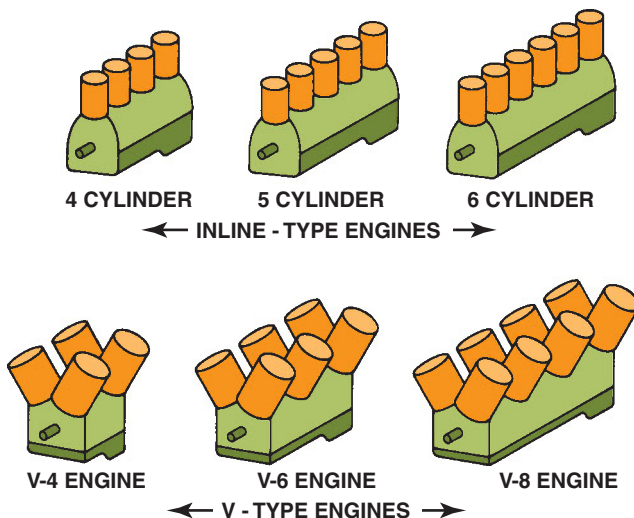
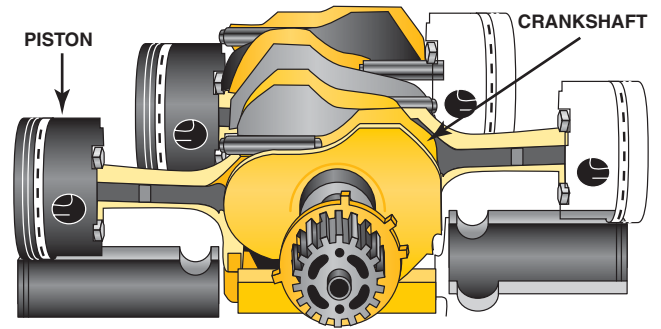

FIGURE 3-7 Automotive engine cylinder arrangements.
FIGURE 3-8 A horizontally opposed engine design helps to lower the vehicle's center of gravity.
- **Cylinder arrangement.** An engine with more cylinders is smoother operating because the power pulses produced by the power strokes are more closely spaced. An inline engine places all cylinders in a straight line. The 4-, 5-, and 6-cylinder engines are commonly manufactured inline engines. A V-type engine, such as a V-6 or V-8, has the number of cylinders split and built into a V shape. ● **SEE FIGURE 3-7.** Horizontally opposed 4- and 6-cylinder engines have two banks of cylinders that are horizontal, resulting in a low engine. This style of engine is used in Porsche and Subaru engines, and is often called the **boxer** or **pancake** engine design. ● **SEE FIGURE 3-8.**